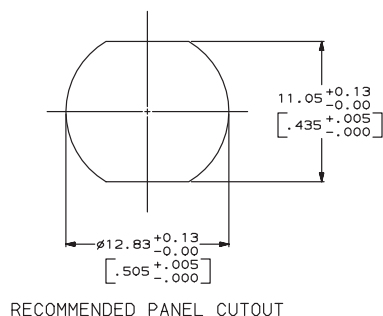

Figure 8
#### 4.2. Bulkhead Jack Connector Assembly (Figure 8)
2. Insert the contacts into the dielectric, making sure that the male contact is permitted to protrude. See Figure 8.